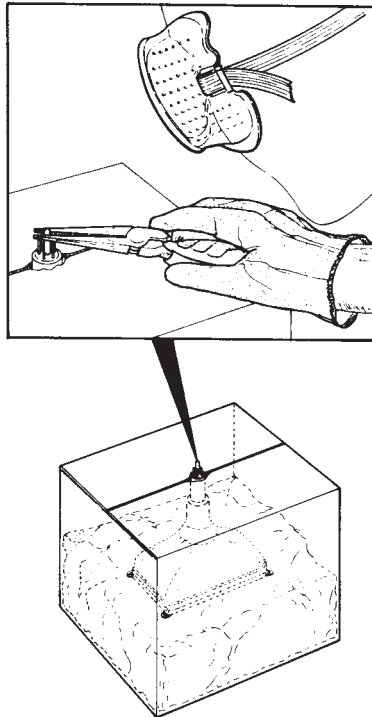

Figure 2-18 CRT Disposal
4. Close and seal the container, leaving only the very end of the CRT neck exposed (Figure 2-18).
5. Slowly crush the CRT evacuation point with a pair of pliers or wire cutters. The evacuation point is located in the center of the CRT neck end (Figure 2-18). If the procedure is done correctly, you will hear a quick rush of air. This means that the CRT no longer has a vacuum and cannot implode.